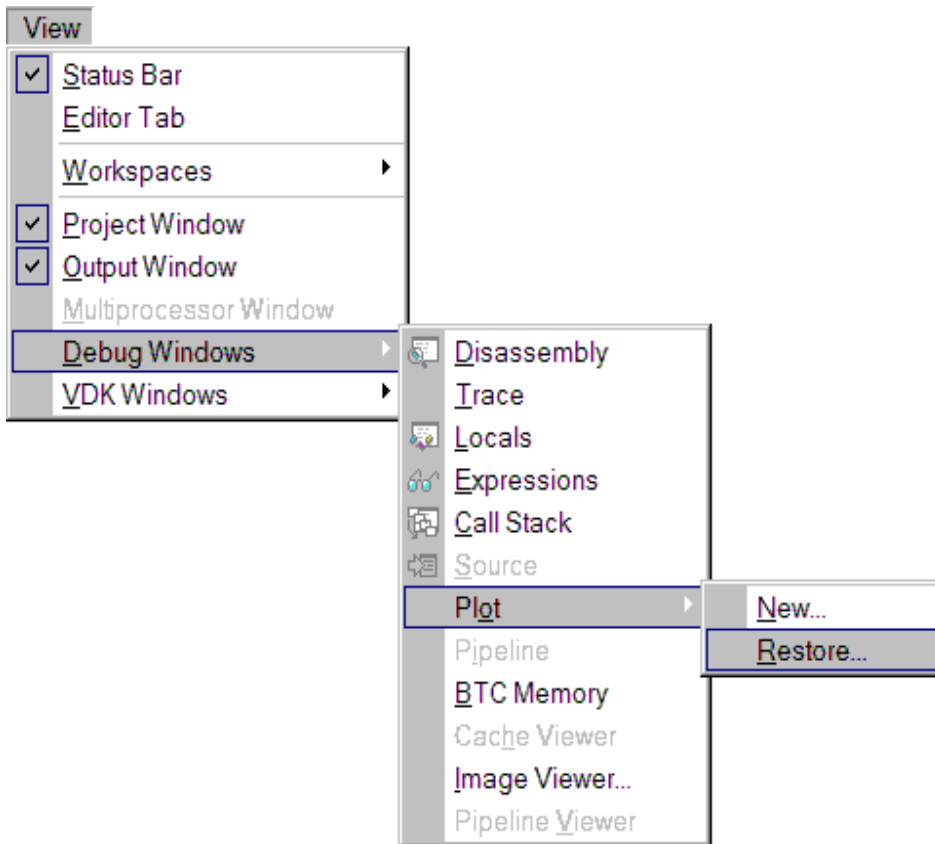

Figure 3-25. Plot Restore Menu Option
2. From the **View** menu, choose **Debug Windows**, **Plot**, and then **Restore**, as shown in Figure 3-25.